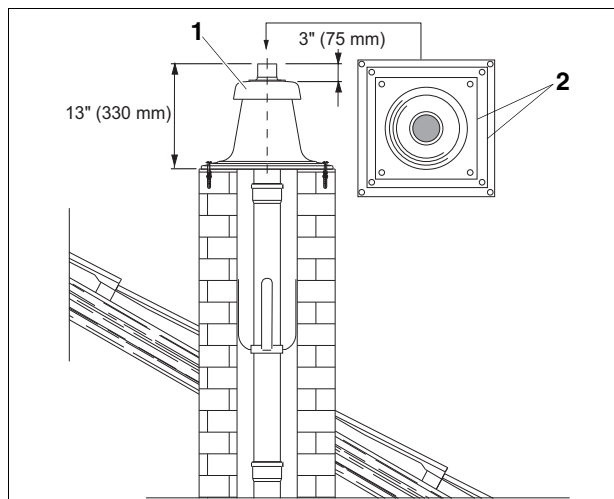

Fig. 11 Installing the chimney cover (dimensions in mm)
- Remove the upper part of the chimney cover (Fig. 11, **Item 1**).
- The chimney cover can be trimmed to size by cutting along the lines (Fig. 11, **Item 2**).